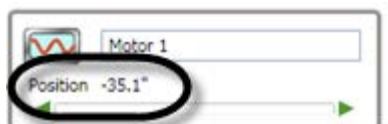

Figure 70
2. To set the **Min Reverse Position**, go to the **Manual Controls** section in the **Motor Editing Pane** and run the motor in reverse as far as its physical limit will allow. Observe the **Position** value at the top of the **Motor Editing Pane** (circled in Figure 70).